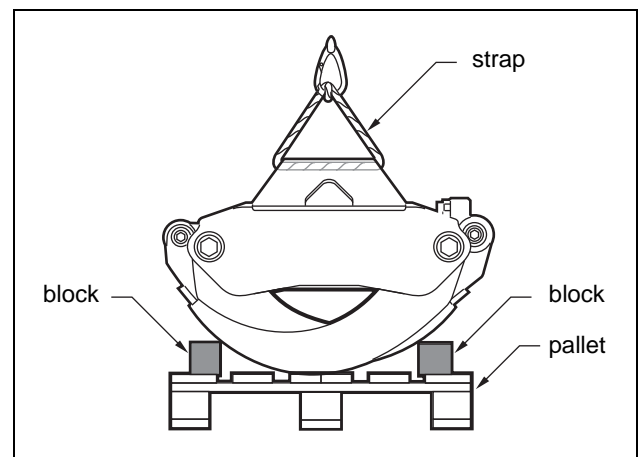

Fig. 11 Arrangement of the grapple at transportation or service
**Note!** Nail blocks to the pallet base to prevent the grapple from falling during transportation or service. Tie a strap around the stand for safe lifting. See Fig. 11.
1. Place the grapple on a firm base. See Fig. 11.